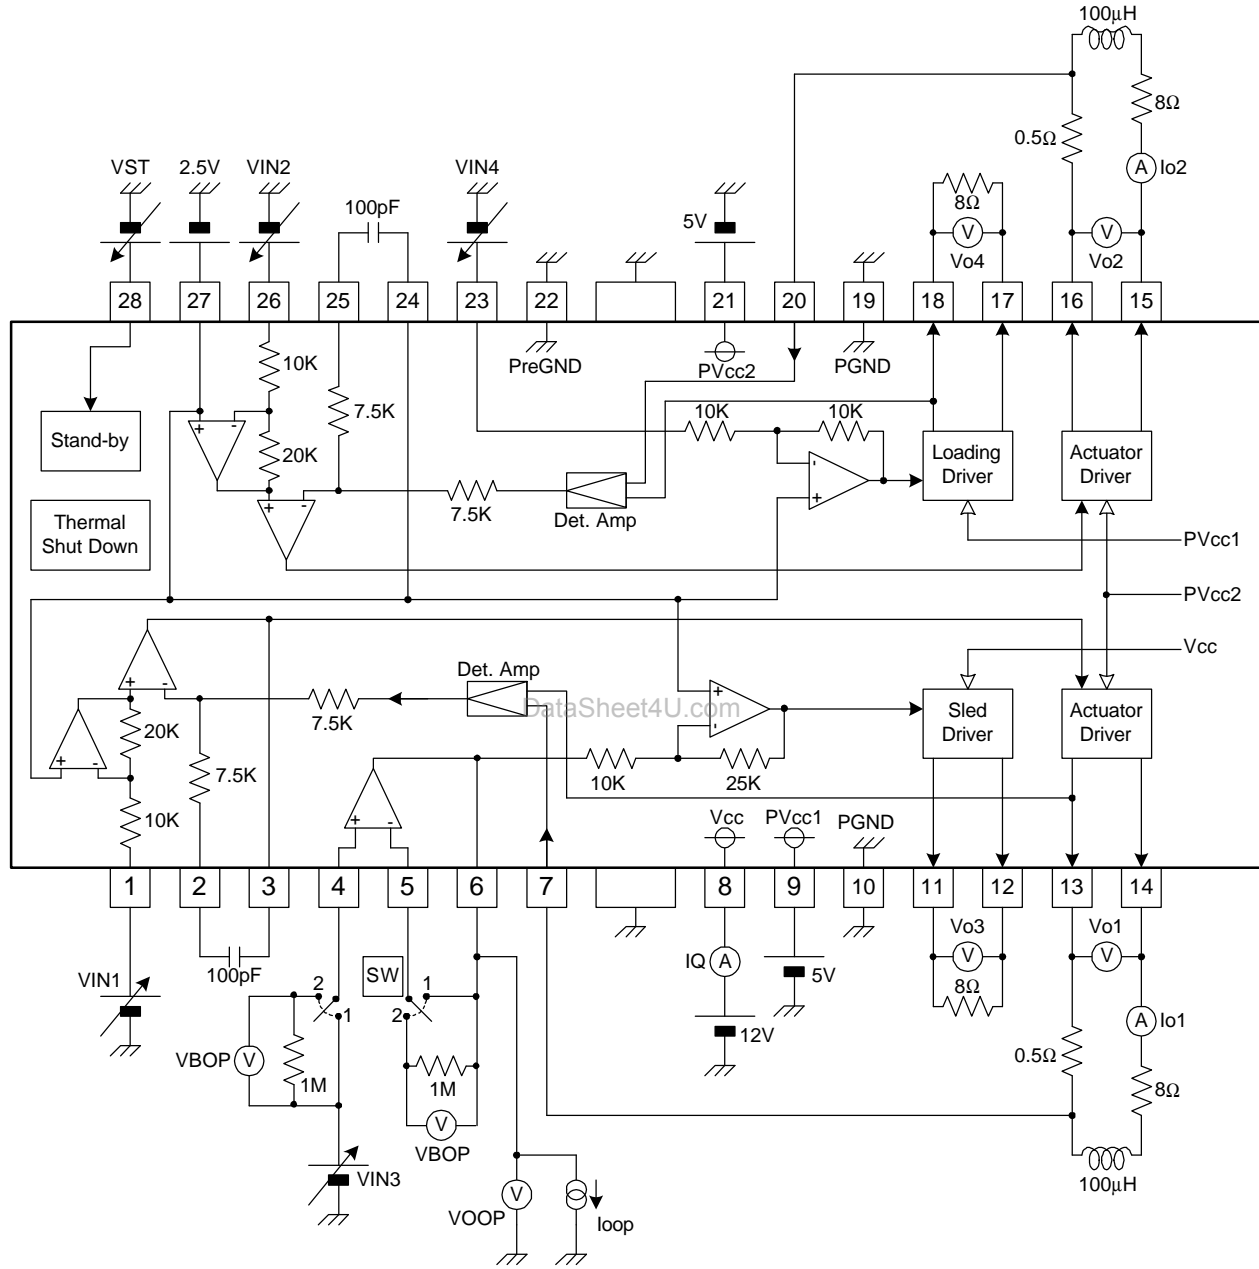

Figure 4: CMI8804 Test Circuit
**Note:** For reference to Electrical Characteristics, see figure 4 (page 6), CMI8804 Test Circuit.